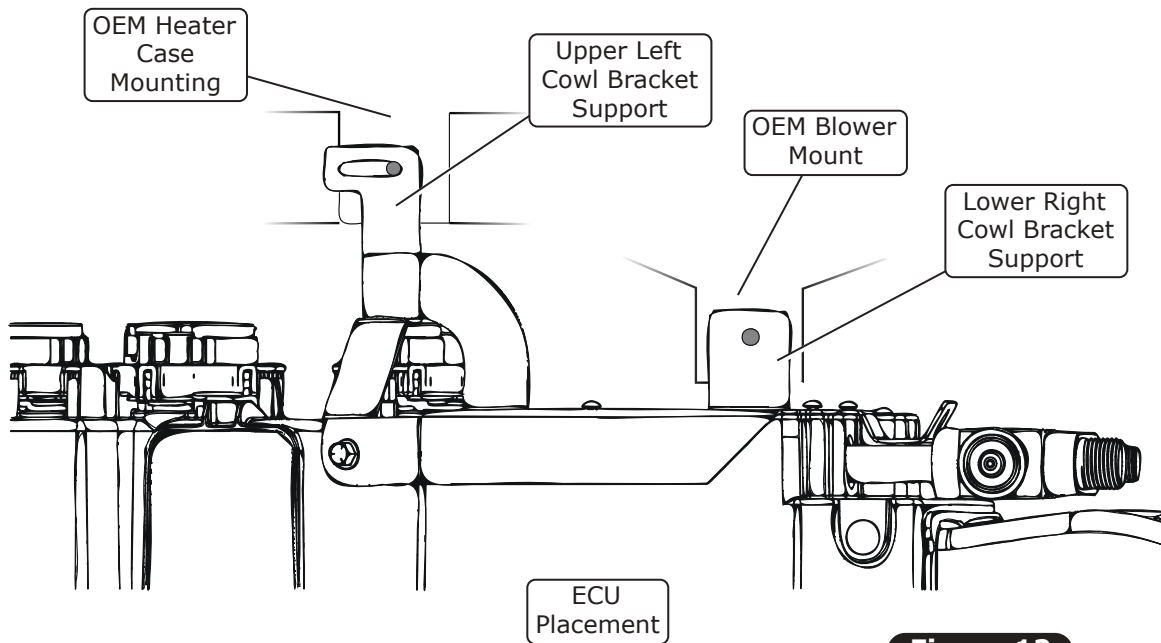

Figure 12
11. Once the firewall bracket is aligned to the previously drilled (2) 1/4" holes and the full-threaded studs are protruding through the firewall into the engine compartment. Verify the lower right cowl bracket support is aligned to the OEM blower mount (See Figure 12, below). With the supplied T30 M6 x 1" truss head bolt, secure bracket to the OEM blower mount.
12. Align upper left cowl bracket support to the vehicle's OEM heater case mount (See Figure 12, below). With the supplied T30 M6 x 1" truss head bolt, secure the bracket to the mount.